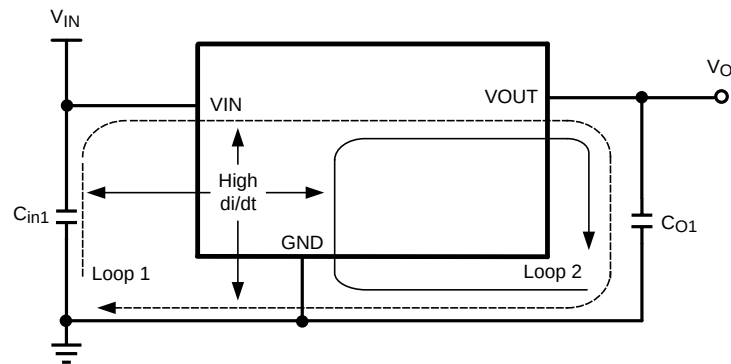

Figure 54. Critical Current Loops to Minimize
From an EMI reduction standpoint, it is imperative to minimize the high di/dt paths during PCB layout as shown in Figure 54. The high current loops that do not overlap have high di/dt content that will cause observable high-frequency noise on the output pin if the input capacitor (C_{in1}) is placed at a distance away from the LMZ23603. Therefore place C_{in1} as close as possible to the LMZ23603 VIN and PGND exposed pad. This will minimize the high di/dt area and reduce radiated EMI. Additionally, grounding for both the input and output capacitor must consist of a localized top side plane that connects to the PGND exposed pad (EP).